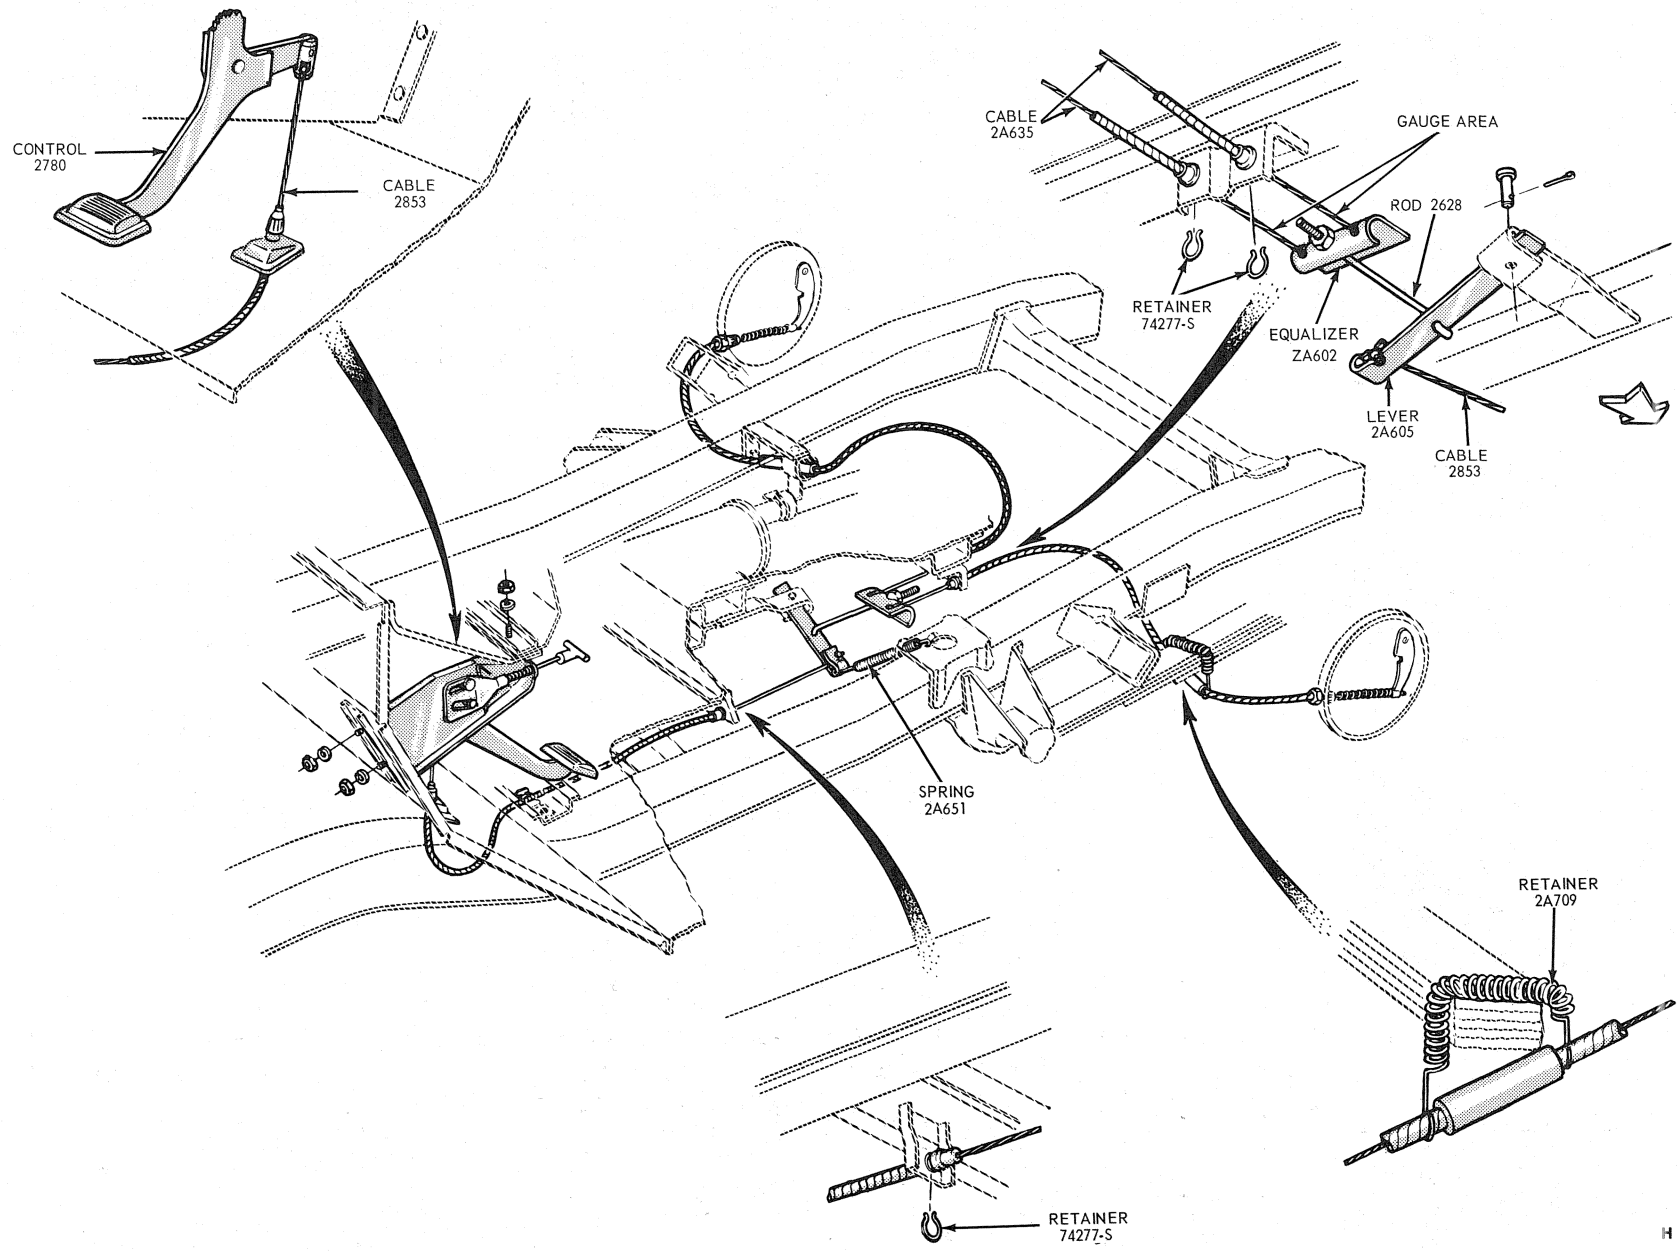

FIG. 17—Parking Brake System— Bronco
6. On Bronco models, remove the retainer securing the cable assembly to the rear spring (Fig. 17). Working on the wheel side of the rear brake assembly (Fig. 1), compress the prongs on the cable retainer so that they can pass through the hole in the carrier plate. Draw the cable retainer out of the hole.
1. Loosen the adjusting nut at the equalizer if necessary, and remove the ball-end of the control cable from the equalizer lever (Fig. 17).
4. Connect the ball-end of the control cable to equalizer lever (Fig. 17).
2. Loosen lock nut and adjusting nut at the equalizer assembly (Fig. 17) and remove ball end of the brake control to equalizer cable from the equalizer arm. Remove the clip retaining the cable housing to the bracket.